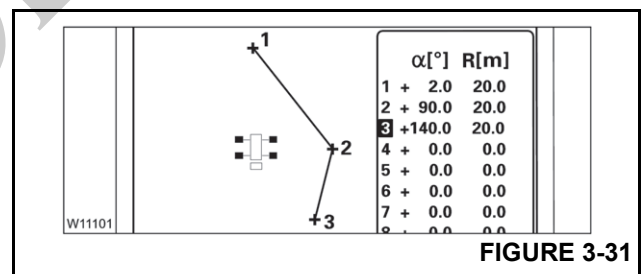

FIGURE 3-31
4. Enter the next point (2) (Figure 3-31) in the same manner, e.g. +90° and 20 m.
5. The point (2) is connected with point (1), an object has been entered.